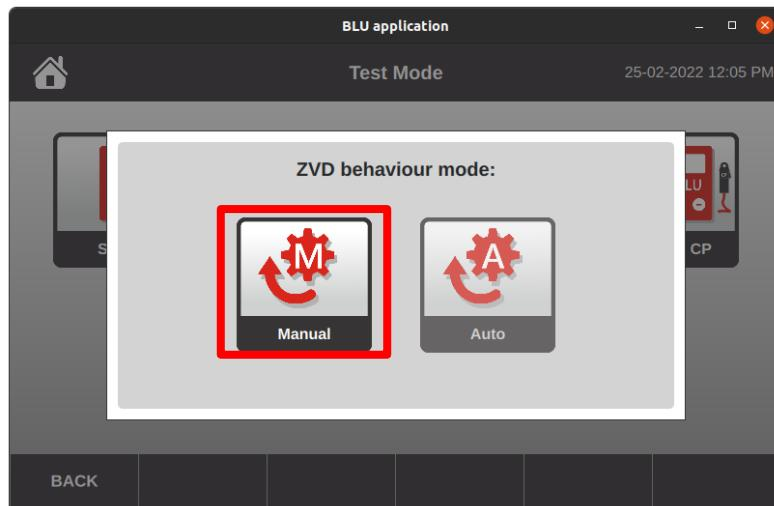

Figure 4-12: ZVD Test Modes
After the ZVD option has been selected, select option *Manual* on the next screen. *Manual* option means that ZVD needs to be started manually after battery voltage drops to 0 V. Alternative solution (automatic start of ZVD) is currently under development (Figure 4-12).
The test result name will include information on test mode and test type (*Single_Const I*), test value (1A) and date when test is completed (22_7_2020), Figure 4-12. The information that the result is saved in the memory will disappear in few seconds, Figure 4-12.
- Total test time (00:00:12 on the Figure 4-12),
- Final battery voltage (11.6 [V] on the Figure 4-12),
- Test current (3.0 [A] on the Figure 4-12),
- Total measured capacity (0.0 [Ah] on the Figure 4-12)